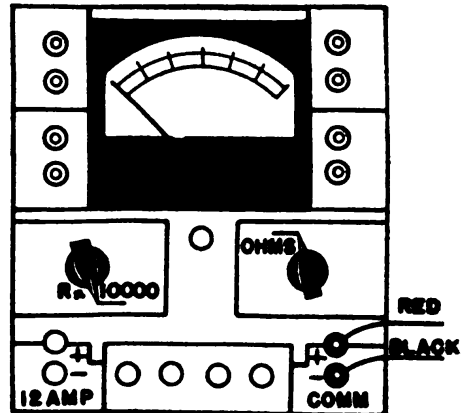

FIG. 6D: R x 1, R x 100,
a. See figure 6D and table II for switch positions and jack connections and proceed as follows:
(1) Set the circuit selector switch to OHMS position.
(2) Set the range selector switch as follows: